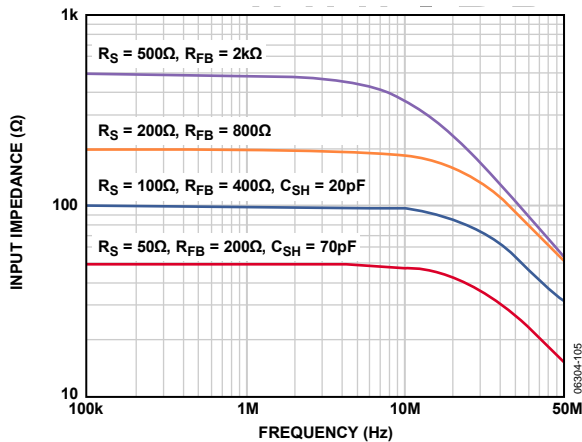

Figure 42.  $R_{IN}$  vs. Frequency for Various Values of  $R_{FB}$
The bandwidth (BW) of the LNA is about 70 MHz. Ultimately the BW of the LNA limits the accuracy of the synthesized  $R_{IN}$ . For  $R_{IN} = R_s$  up to about  $200\text{ }\Omega$ , the best match is between 100 kHz and 10 MHz, where the lower frequency limit is determined by the size of the ac-coupling capacitors, and the upper limit is determined by the LNA BW. Furthermore, the input capacitance and  $R_s$  limit the BW at higher frequencies. Figure 42 shows  $R_{IN}$  vs. frequency for various values of  $R_{FB}$ .
Note that at the lowest value,  $50\text{ }\Omega$ , in Figure 42,  $R_{IN}$  peaks at frequencies greater than 10 MHz. This is due to the BW roll-off of the LNA, as mentioned previously.